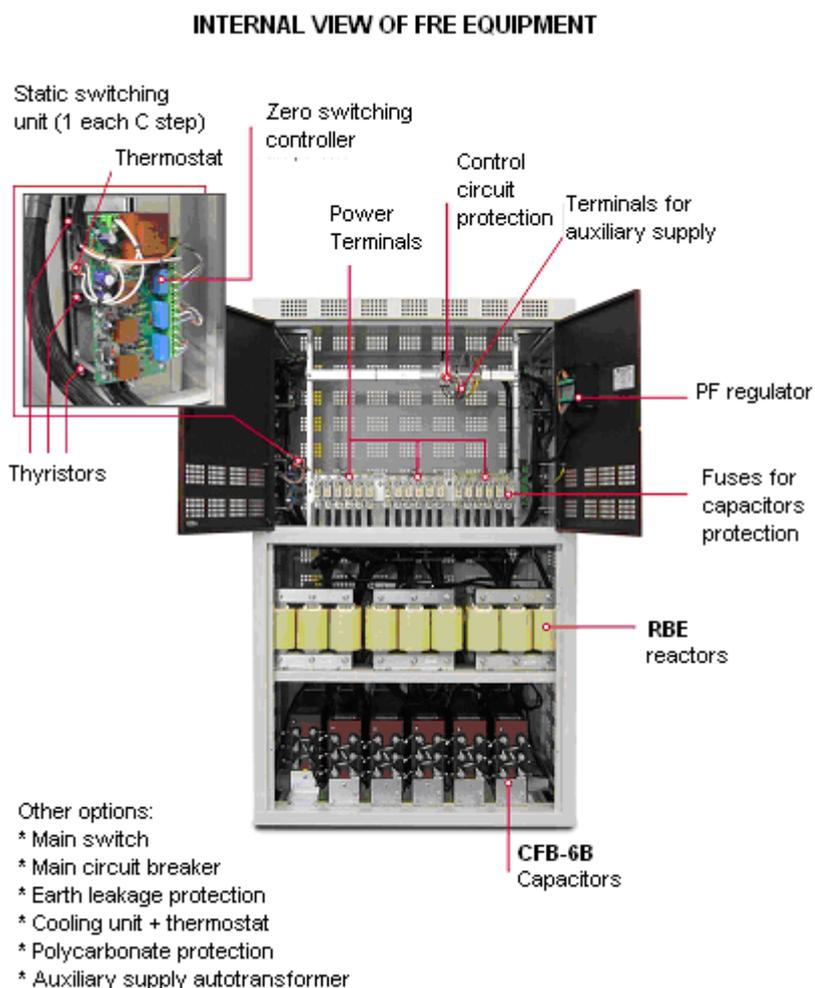

Fig. 4-3 .- FRE Capacitor bank components
Fig. 4-3 shows the different models of capacitor banks with filters and their essential components. Some protection elements are optional.
- Some elements of protection shown in Fig. 4-3 are optional and may not be present in your equipment
Connect the earth terminal of the FRE or FRES equipment, located inside the equipment cabinet(see Fig. 4-3) to the exterior earth connection. The earth cable section will be selected in accordance with the admissible current limits established in the Low Voltage Directive or in the National code of the country where the filter is installed.
- Ensure that the inner circuit breaker that starts the regulator, shown as the control circuit protection in Fig. 4-3 is connected